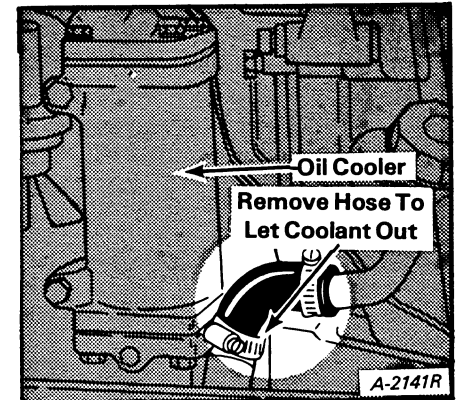

Fig. 1-20A Oil Cooler (975)
**NOTE:** On the 975 take off the hose at oil cooler to remove coolant (Fig. 1-20A).
- (2) Close both drains and fill the system with clean water.